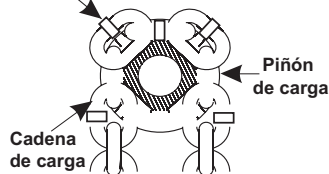

fig.3B
7. Install chain by running a piece of wire or string between chain guide roller and load sprocket and then over and around the load sprocket. Tie the chain to the wire or string and pull it into the hoist so that the first link is standing on edge in one of the slots of the load sprocket, with the weld away from the sprocket (see fig.3B). Shift the direction knob to neutral position and rotate hand wheel clockwise until the load eaten in the load sprocket. Remove the cotter pin from the slack end pin and slide the pin to one side. Pull the end of the chain under the chain guide roller and hook the last link over the slack end pin, being sure the chain is not twisted. Slide the slack end pin back into position and install the cotter pin through it.